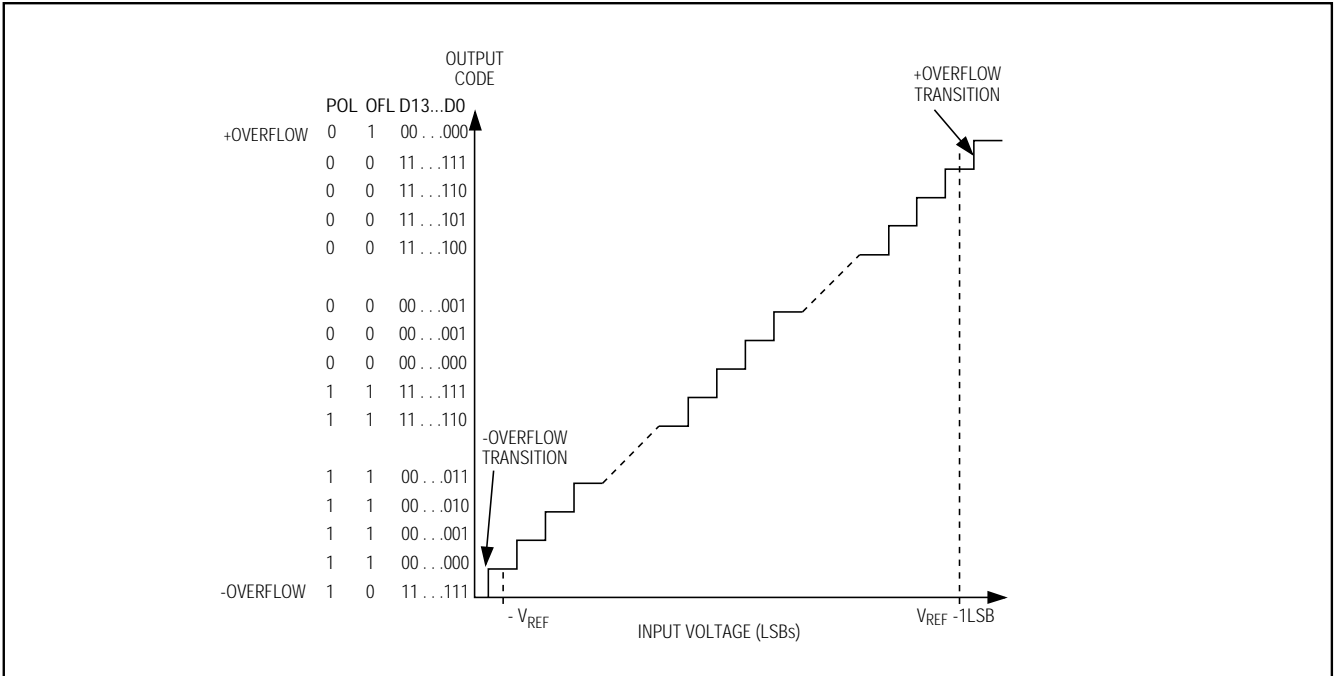
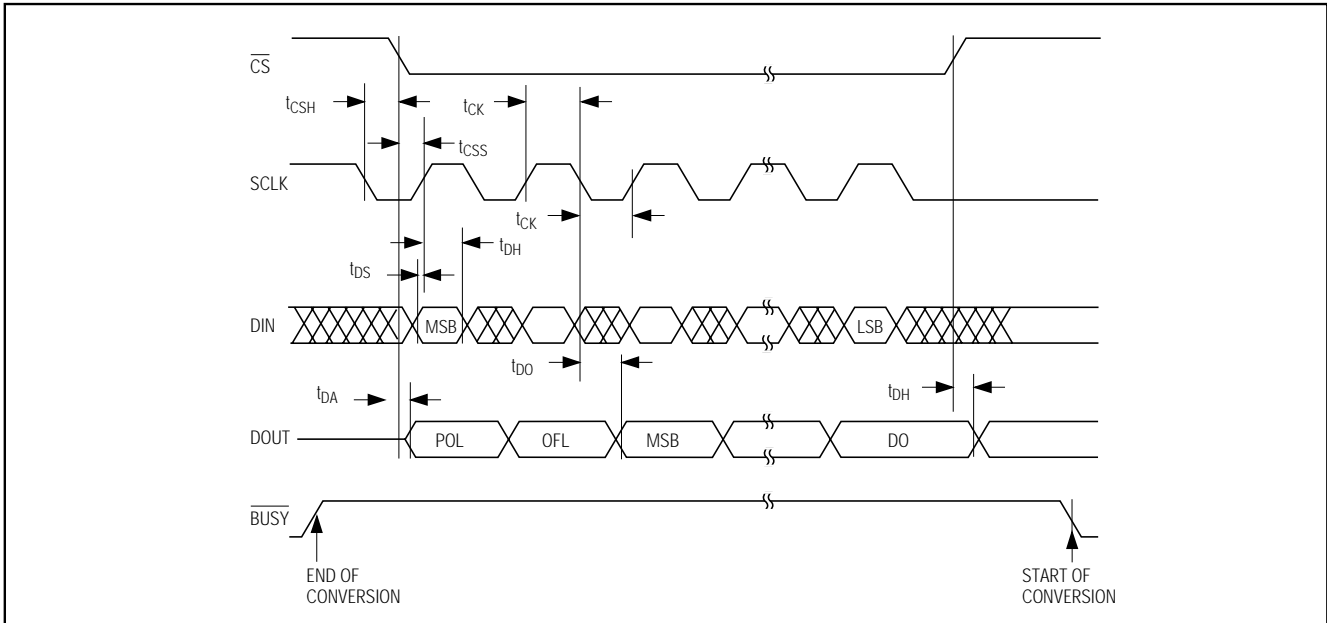

Figure 4. Differential Transfer Function
Figure 6. Detailed Serial-Interface Timing
TIMING CHARACTERISTICS (see Figure 6)
The output data from the MAX110/MAX111 is arranged in twos-complement format (Figures 4, 5). The sign bit (POL) is shifted out first, followed by the overrange bit (OR), and the 14 data bits (MSB first) (see Figure 6). The MAX110 operates from $\pm 5V$ power supplies and converts low-frequency analog signals in the $\pm 3V$ range when using the maximum reference voltage of $V_{REF} = 3V$ ($V_{REF} = V_{REF+} - V_{REF-}$). Within the $\pm 3V$ input range, greater accuracy is obtained within $\pm 2.5V$ (see *Electrical Characteristics* for details). Note that a negative input voltage is defined as $V_{IN-} > V_{IN+}$. For the MAX110, the absolute voltage at any analog input pin must remain within the $(V_{SS} + 2.25V)$ to $(V_{DD} - 2.25V)$ range.
Data is transferred into and out of the serial I/O shift register by pulling \overline{CS} low and applying a serial clock at SCLK. This fully static shift register allows SCLK to range from DC to 2MHz. Output data from the ADC is clocked out on SCLK’s falling edge and should be read on SCLK’s rising edge. Input data to the ADC at DIN is clocked in on SCLK’s rising edge. A new conversion begins when \overline{CS} returns high, provided the MSB in the input control word (NO-OP) is a 1 (see *Using the MAX110/MAX111 with MICROWIRE, SPI, and QSPI Serial Interfaces*). Figure 6 shows the detailed serial-interface timing diagram.